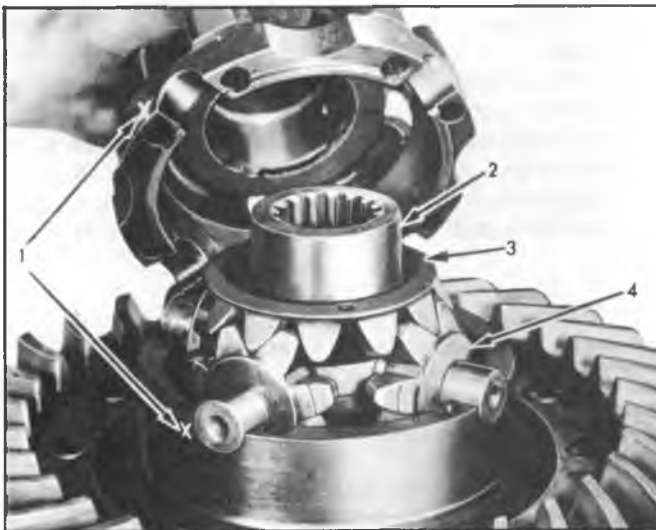
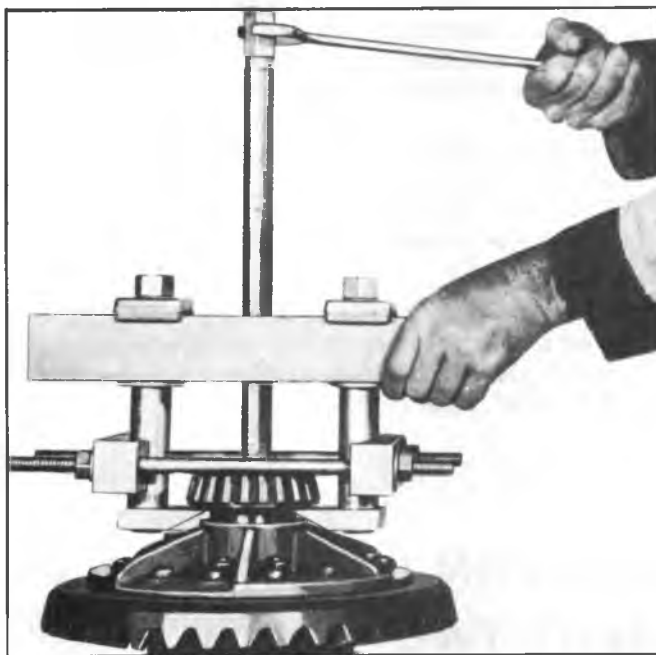

Fig. 4K--Removing Differential Case
Fig. 5K--Removing Differential Bearing, Using Tool J-3493
2. Cut lock wires, then remove cap screws holding together the two-piece case, and separate case (fig. 4K).
3. Remove four pinions (16) and thrust washers (15) from spider (17). Remove differential side gears (14 and 18) and thrust washers (13 and 19) from case.
4. If differential bearings require replacement, use Tool J-3493 in manner shown in Figure 5K to remove bearings.
3. Position new thrust washer (13 and 19) and side gear (14 and 18) in ring gear half on case. Install spider (17) with pinions (16) in position, using all new thrust washers (15). Install remaining side gear and new thrust washer.
4. Install other half of case over assembly. Align mating marks on differential case halves (fig. 4K). Install four bolts holding two halves of case together. Draw the two halves together firmly. Check assembly for free rotation of gears; then install remaining bolts. Tighten bolts to correct torque; then install lock wire.